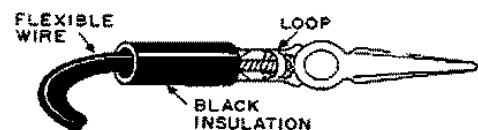

Figure 23 - How to attach the flexible wire to the alligator clip.
- ( ) Slip the alligator clip over the free end of the black flexible ground lead. Push the bare end of the wire under the small loop in the clip and solder the connection. See Fig. 23.